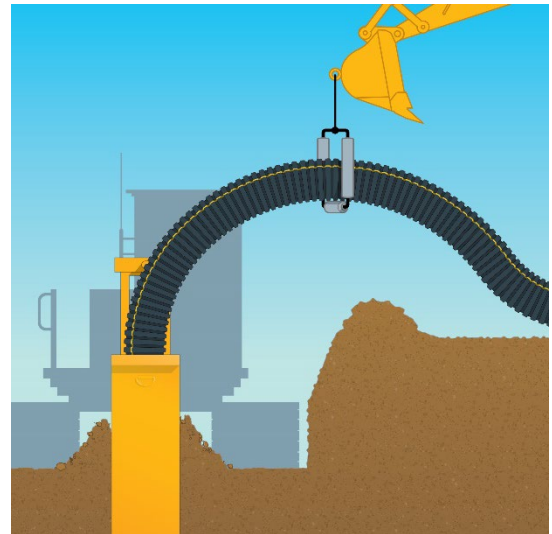

Figure 4: Goldflex Support Guide
- To aid with installation, a support or large diameter tile feeder should be used to help guide the pipe from the ground into the boot and avoid obstacles (Figure 4). If a guide is not used, someone should walk with the machine to support the pipe and form a consistent arch into the boot.